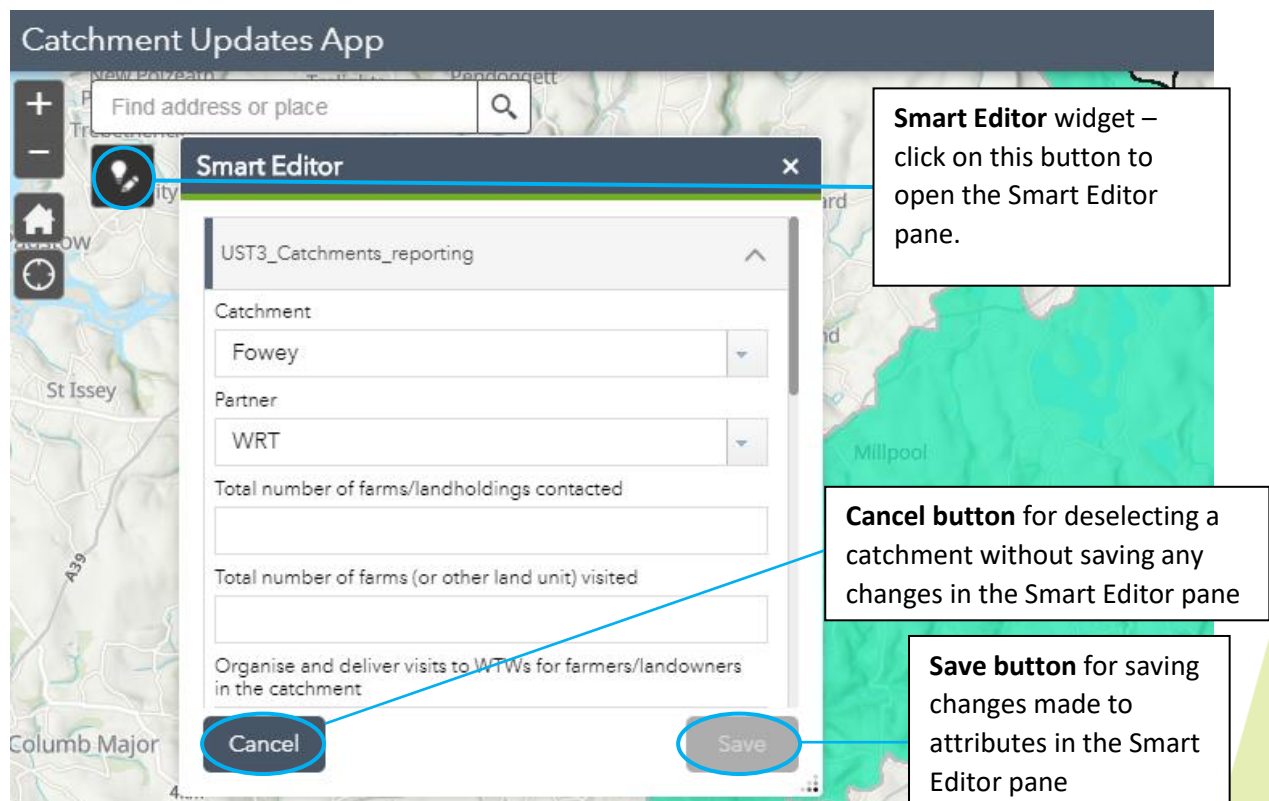

Figure 15. Catchment Updates App with Smart Editor pane open and an example catchment (Fowey) selected.
The content of this tab is an embedded web app, called the 'Catchment Updates App' (Figure 15).
1. Click on the Smart Editor widget  found in the top left hand corner of the screen, zoom into the catchment of interest, then click within the black polygon outline to select the desired catchment. If you accidentally select the wrong catchment or wish to cancel your selection, click cancel in the dialog box that opens (see Figure 15).
2. Enter details into the dialog box that opens in the Smart Editor pane, then click Save (see Figure 15).